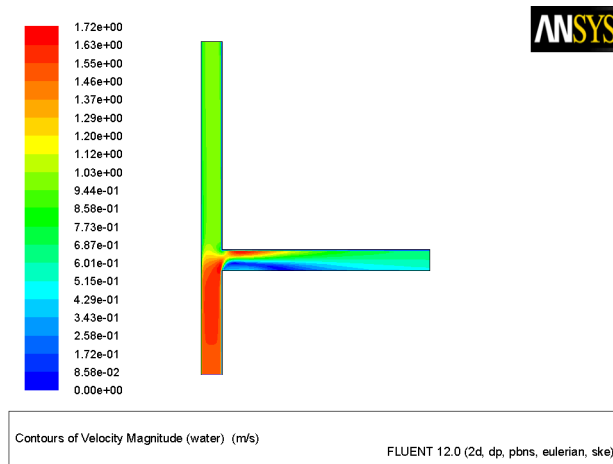

Figure 20.7: Contours of Water Velocity Magnitude
2. Display contours of velocity magnitude for water (Figure 20.7).